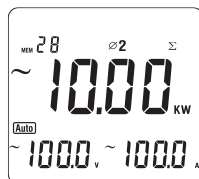

Figure 10
- If necessary, press  $\Sigma$  to get the sum of watts as figure 10.